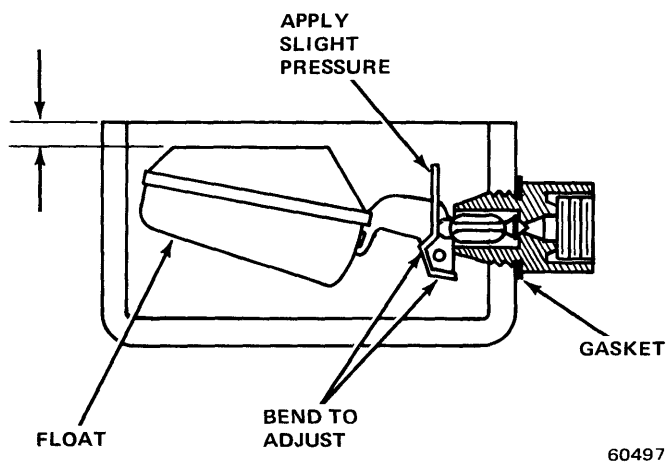

Fig. 4-56 Float Level Adjustment
(1) Remove air horn.
(2) Hold float lip **gently** against needle to raise float (fig. 4-56).
(3) Place straightedge across float bowl to measure float level. Level should be 0.250 inch with an OK range of 0.218 to 0.282 inch.
(4) If adjustment is necessary, release floats and bend float lip.